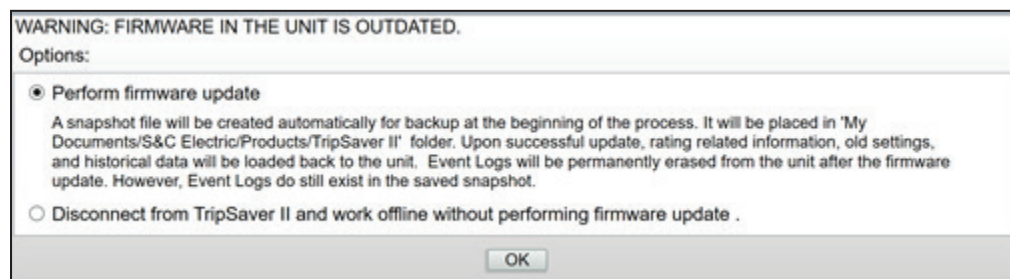

Figure 2. The firmware update Warning dialog box.
- STEP 5.** Select the **Tools>Firmware Update** option from the **Main** menu, or click on the Firmware Update icon in the quick access toolbar. If the firmware is out of date, a dialog box will appear. See Figure 2.